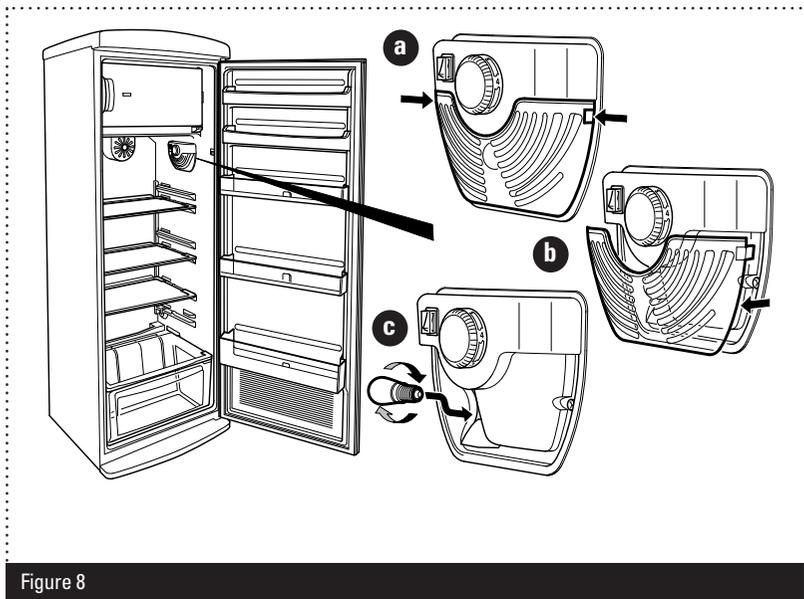

Figure 8
- 2 Apply light pressure to the sides of the light cover and carefully pull downwards. (Figure 8 **a**).
- 3 Unscrew the bulb by turning it clockwise, and remove (Figure 8 **b**).
- 5 Re-fit the light cover, by pushing it upwards it until it clicks back into position (Figure 8 **c**).